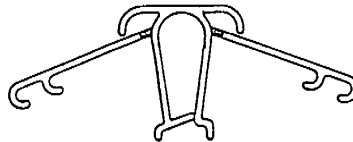

Figure 6
15. Install the new gate strips. See figures 6, 7, & 8 on page 3.